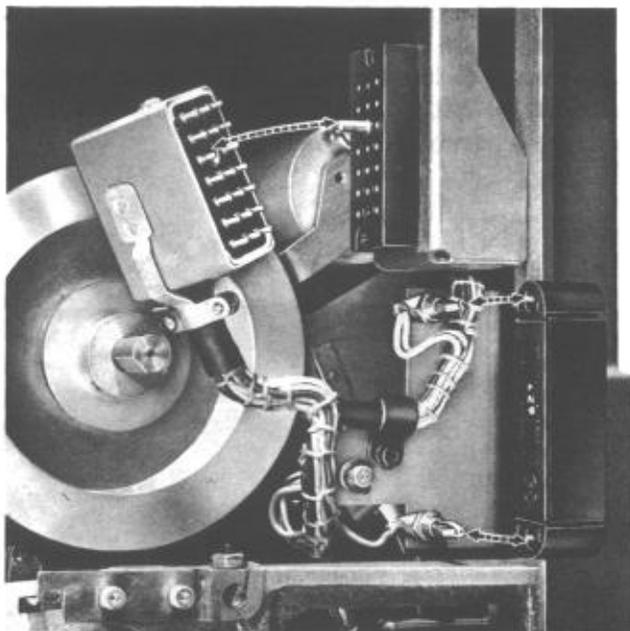

**Fig. 5 — 2A Telephone Answering Set, Back of Front Panel Showing Lamps, OFF-ON and Function Switches**
**4.02** The lamps used for the ON-OFF (E1), DICTATE (E2), and READY (E3) lights in early type sets are removed by grasping the base of the lamp and pulling upward out of the lamp socket (see Fig. 5). The 1847 lamps used for the ON-OFF (E1, when provided), DICTATE (E2), and READY (E3) lights in standard sets are removed by pressing the lamp into the socket, turning counterclockwise until free, and withdrawing. To place a lamp, press the lamp into the socket; turn clockwise until secure. It may be necessary to loosen the clamp in order to remove the lamp. After placing a new lamp, tighten the clamp securely. (See Fig. 5.)